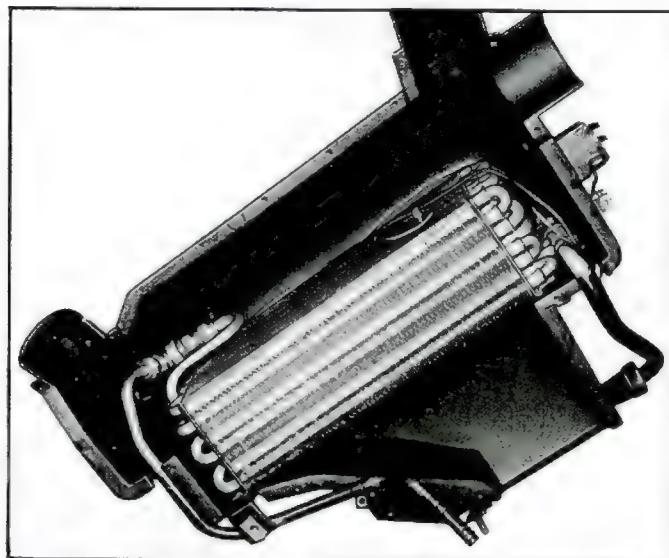

Fig. 24—Evaporator Cover Removed
Component Replacement (Fig. 24)
2. See Figure 24. Disconnect the pipe fittings from the expansion valve and remove the valve and capillary tubing.